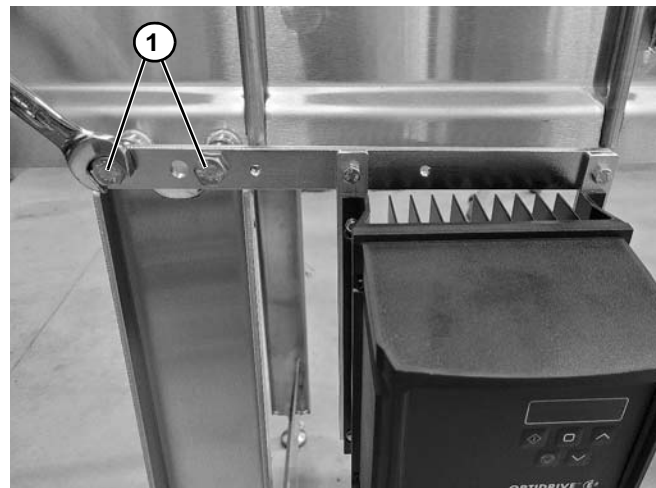

Figure 26
3. Install assembly to conveyor at stand location by removing screws and replacing with new screws (Figure 26, item 1).